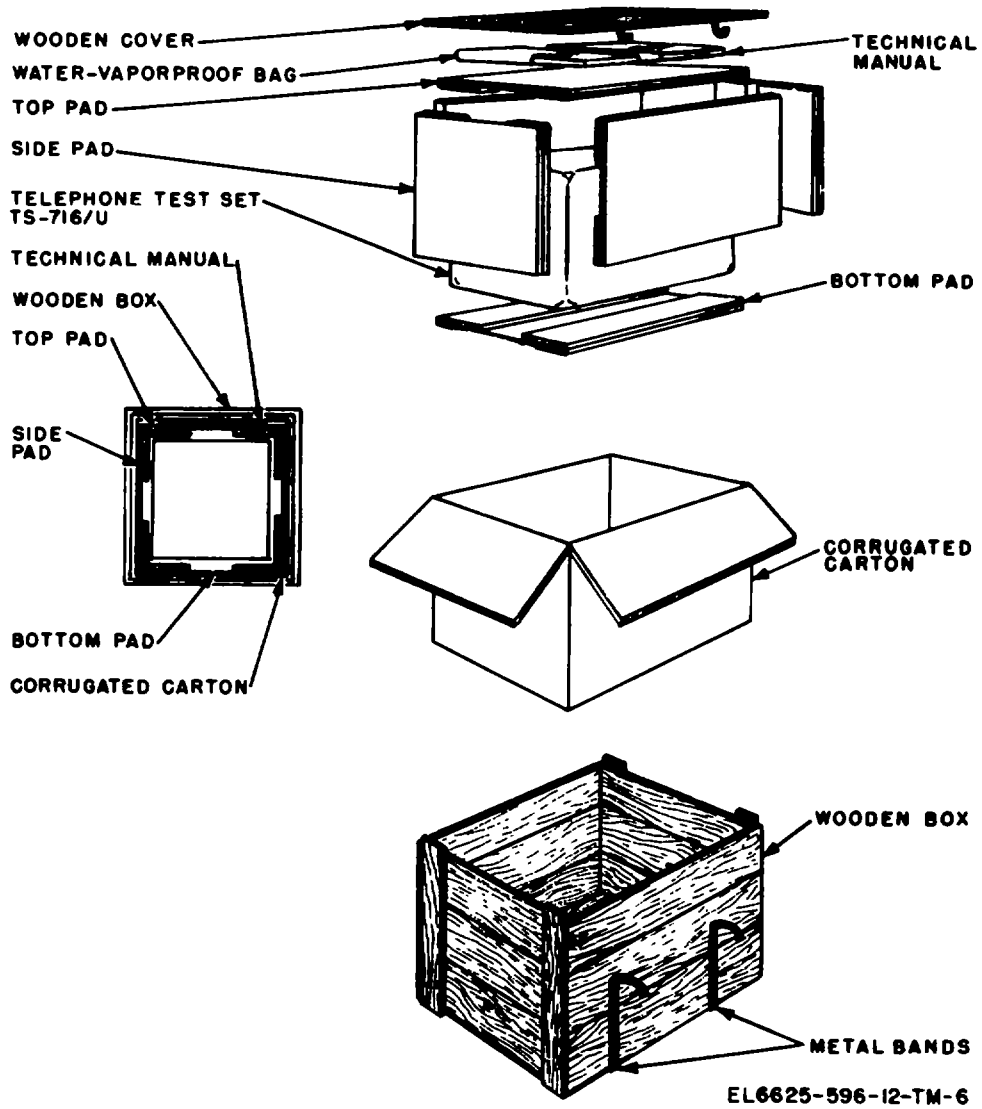

Figure 2-1. Packaging of Telephone Test Set TS-716/U.
a. *Packaging Data.* The TS-716 is packaged in two shipping boxes. The first box contains the test set and the second box contains an adaptor and cables required to connect the equipment under test to the test set. A typical shipping box is illustrated in figure 2-1.